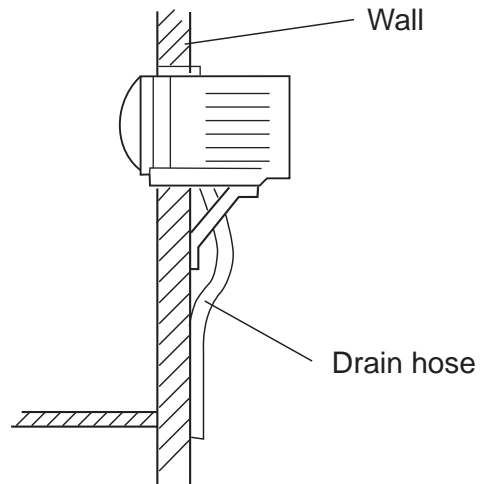

Fig. 5
7. All attachments being fixed, put the air conditioner on the iron support. If there is a drain hose, lead it to a required place (see Fig.5).